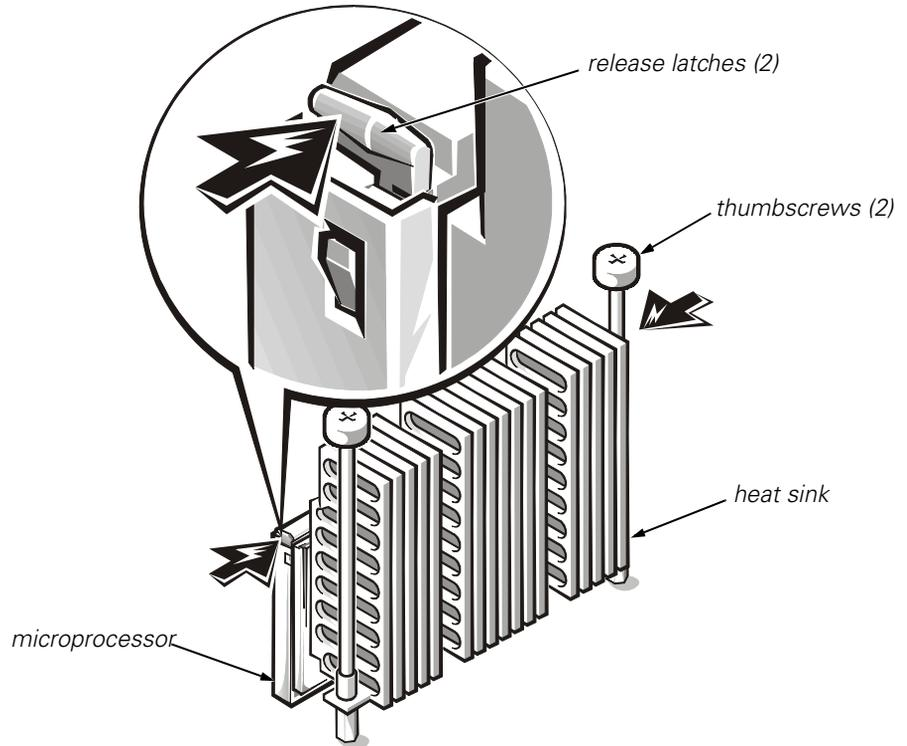

Figure 1. Microprocessor Removal
2. Press the microprocessor's release latches inward until they snap into position (see Figure 1).